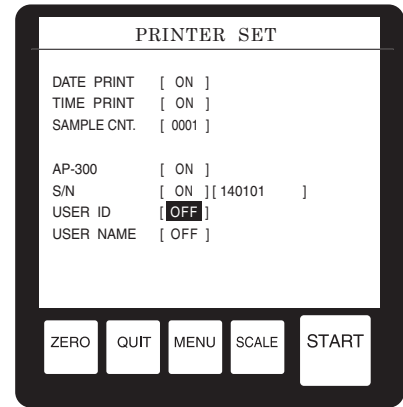
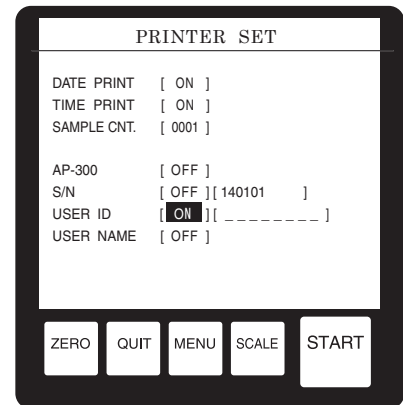
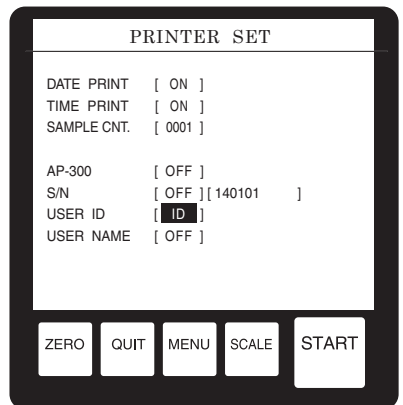

Fig.12-9
Fig.12-10
Fig.12-11
- i) "USER ID" can be set to either "OFF", "ON" or "ID" (ADMIN, USER, GUEST) by using the $\leftarrow$ (or $\rightarrow$) key. The factory default value is set to "OFF" (Fig. 12-9). Press $\leftarrow$ to change the setting from "OFF" to "ON". Press $\leftarrow$ again to change it from "ON" to "ID". Pressing $\leftarrow$ while "ID" is being indicated on the screen does not change anything. To change it back to "OFF", press " $\leftarrow$ ". Press $\leftarrow$ to change the setting to "ON". Enter number up to 10 digits or phrase within 10 letters next (the right side) to "ON" using the numeric keypad (Fig. 12-10). Choose a number that helps distinguish the measurer, for example, a symbol, name, number company name or division name of the measurer's. To set the "ID", press $\leftarrow$ twice. When selecting "ID" (Fig. 12-11), "USER ID" that is distinguished by a password will be printed. If a password is not being entered, "****" will be printed (Press $\rightarrow$ once to change the setting from "ID" to "ON", and twice to "OFF"). Press " $\leftarrow$ " after selecting either one of "OFF", "ON" or "ID". Then, the selected item moves on to "USER NAME".